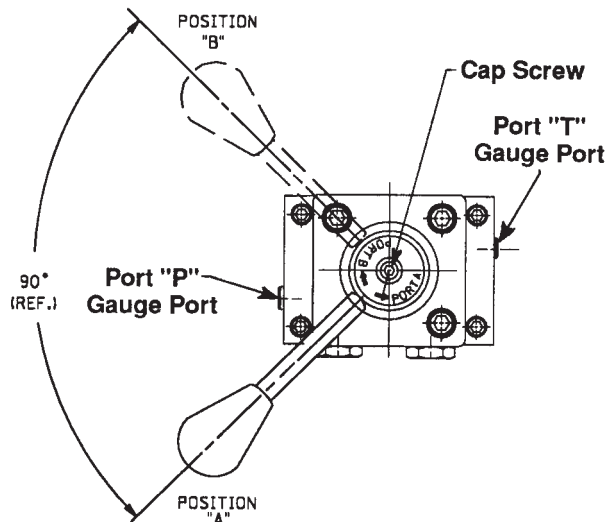

FIGURE 1
- To move the valve handle to any position loosen the cap screw and rotating the stem in increments of $22\frac{1}{2}^{\circ}$ to the position desired. Torque the cap screw 60/80 in. lbs. See Figure 1.
3. Upon initial start-up it is recommended that a gauge be temporarily installed in the Port "T" gauge port shown in Figures 1 and 3. Return line pressure should not exceed 500 PSI. See Figure 3.